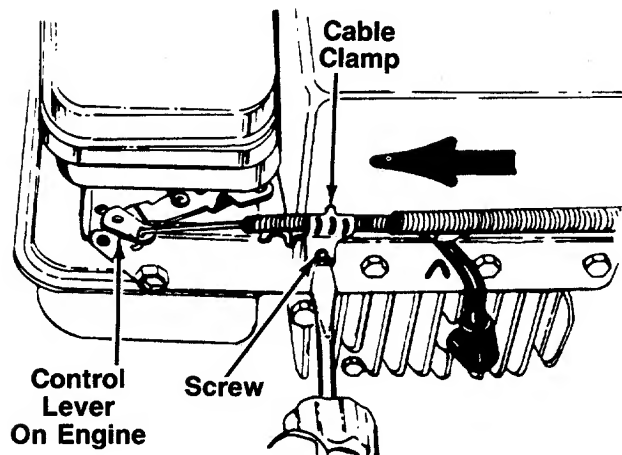

FIGURE 17.
1. Loosen (do not remove) the screw on the cable clamp so that the cable will move freely under the clamp. See figure 17.